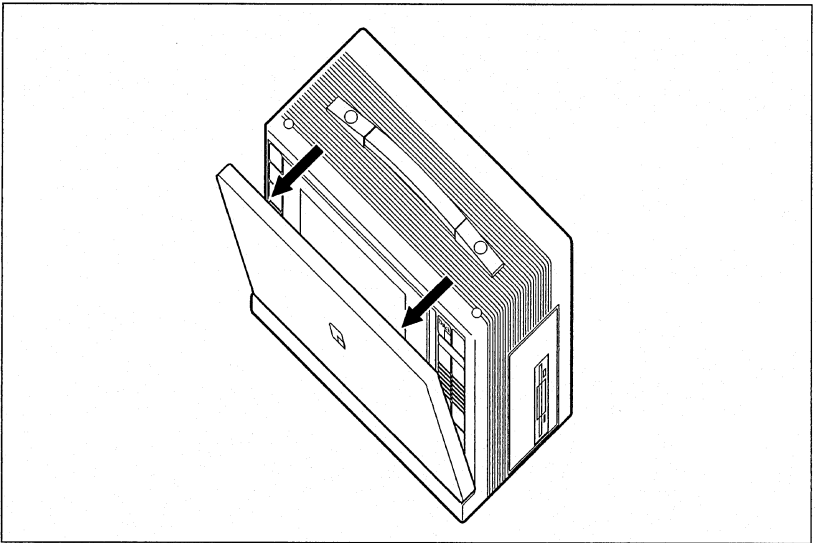

fig. 1-2
3. Remove the keyboard from the main unit, being careful not to drop it (fig. 1-2). Place the keyboard in front of the system.